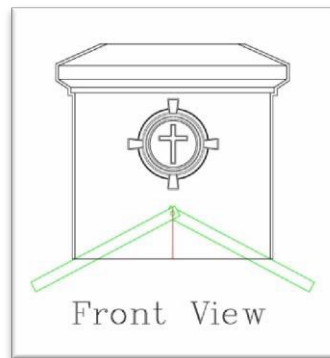

Figure D7: Lining pitch gauge with base.
Step 7: Line the top of the pitch gauge with the top of the center line you drew in step 6. Line the top edge of the pitch gauge with the inner side marks you made in step 2. Refer to figure D7.